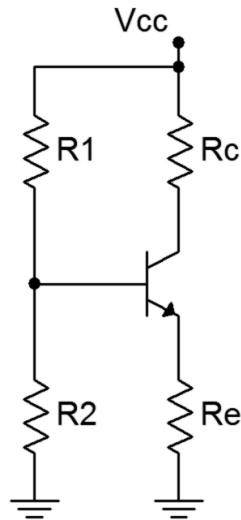

Figure 1
1. Consider the circuit of Figure 1 using $V_{cc} = 10$ volts, $R_1 = 10 \text{ k}\Omega$, $R_2 = 3.3 \text{ k}\Omega$, $R_e = 4.7 \text{ k}\Omega$ and $R_c = 5.6 \text{ k}\Omega$. Using the approximation of a lightly loaded “stiff” voltage divider, determine the ideal end points of the DC load line and the Q point, and record these in Table 1.
3. Build the circuit of Figure 1 using $V_{cc} = 10$ volts, $R_1 = 10 \text{ k}\Omega$, $R_2 = 3.3 \text{ k}\Omega$, $R_e = 4.7 \text{ k}\Omega$ and $R_c = 5.6 \text{ k}\Omega$. Measure the base, emitter and collector voltages and record them in the first row of Table 2 (Experimental). Compute the deviations between theoretical and experimental and record these in the first row of Table 2 (% Deviation).
9. Build the circuit of Figure 1 in a simulator. Run a DC simulation and record the resulting transistor voltages in Table 6.